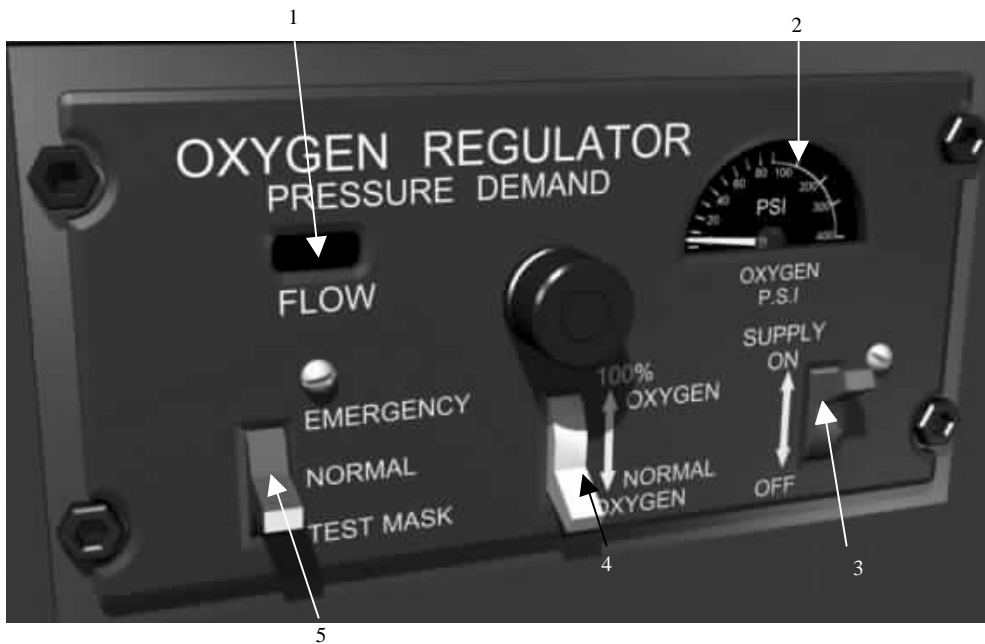

Figure 1-8 — Narrow Panel Regulator
1. Determine if the following characteristics refer to (A) high-pressure or (B) low-pressure gaseous oxygen storage systems.
2. Study the narrow panel automatic pressure demand regulator in Figure 1-8. Place the correct number beside the following components: